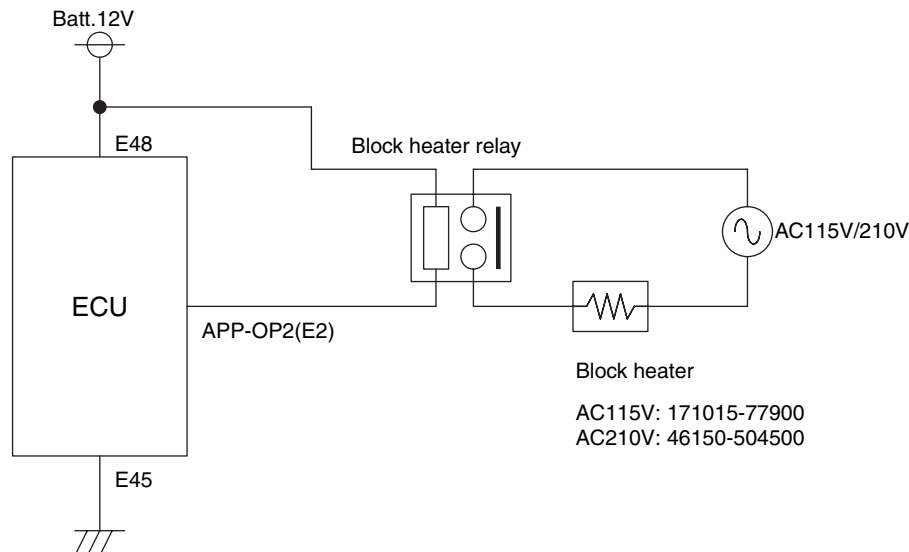

**Figure 2-49** Effect of the accelerator filter
**Figure 2-49** shows the effect of the accelerator filter. The accelerator filter delays reaching the engine target speed, thereby avoiding overshoot and undershoot while trading off the speed responsibility of the engine.